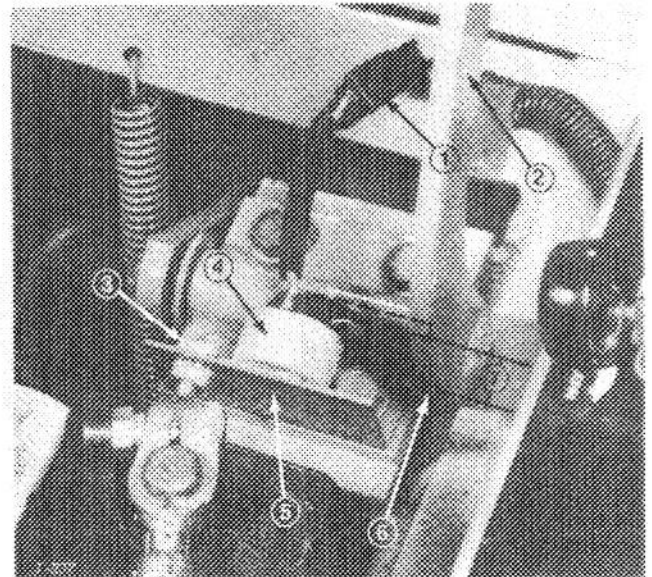

Figure 43
2. Disconnect negative battery cable from battery and separate wire harness connectors (Fig. 43).
3. Move PTO lever to the ON position and remove capscrow and locknut holding switch against mounting bracket (Fig. 43).
4. Install new switch with capscrow and locknut. Move PTO lever to OFF position. When lever is in its normal, released position, the switch arm must bend about 1/2 inch (13 mm) (Fig. 43). If switch arm does not bend 1/2 inch (13 mm), bend the mounting bracket to get the correct adjustment.